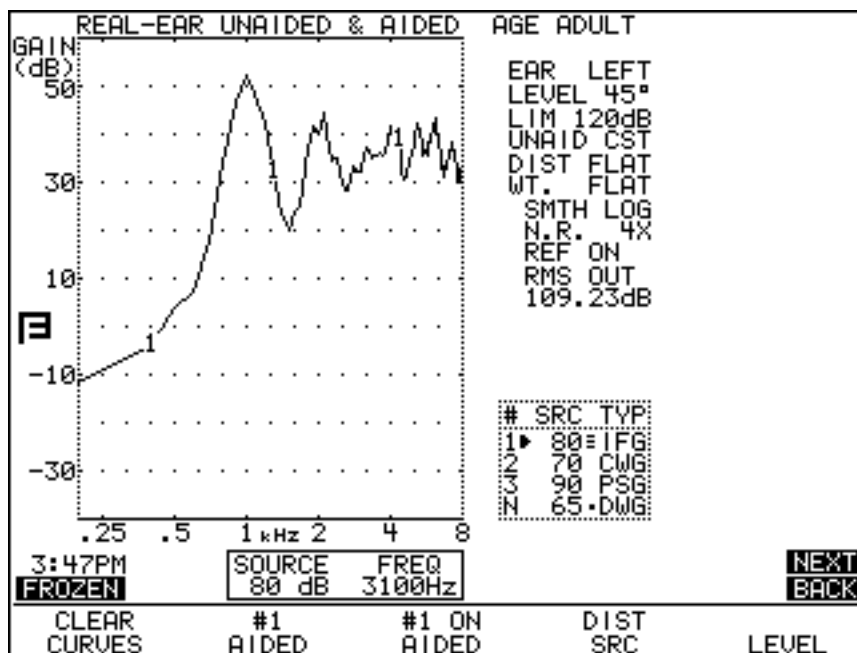

Figure 5.7.3.1—Real-Ear static IM distortion test
13. Press [START/STOP] to start the static IM distortion measurement. See Figure 5.7.3.1.